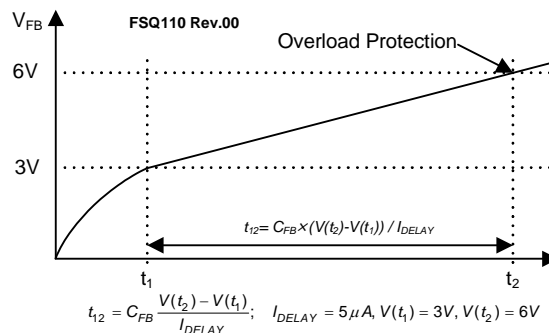

Figure 15. Overload Protection (OLP)
4.1 Overload Protection (OLP): Overload is defined as the load current exceeding a pre-set level due to an unexpected event. In this situation, the protection circuit should be activated to protect the SMPS. However, even when the SMPS is operating normally, the OLP circuit can be activated during the load transition. To avoid this undesired operation, the OLP circuit is designed to be activated after a specified time to determine whether it is a transient situation or a true overload situation. In conjunction with the I_{PK} current limit pin (if used), the current mode feedback path limits the current in the SenseFET when the maximum PWM duty cycle is attained. If the output consumes more than this maximum power, the output voltage (V_O) decreases below nominal voltage. This reduces the current through the opto-coupler LED, which also reduces the opto-coupler transistor current, increasing the feedback voltage (V_{FB}). If V_{FB} exceeds 3V, the feedback input diode is blocked and the 5µA current source (I_{DELAY}) starts to slowly charge C_{FB} up to V_{CC}. In this condition, V_{FB} increases until it reaches 6V, when the switching operation is terminated, as shown in Figure 15. The shutdown delay time is the time required to charge C_{FB} from 3V to 6V with 5µA current source.